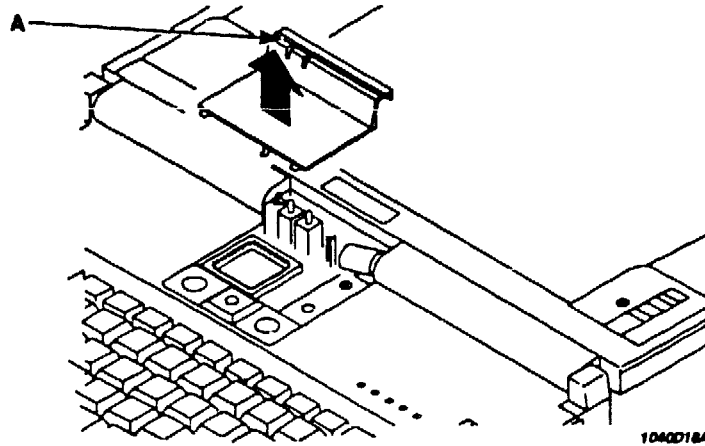

Figure 4-7. Removing the Electronic Component Cover
4. Open the display panel completely. Then, remove the electronic component cover (Figure 4-7, A).